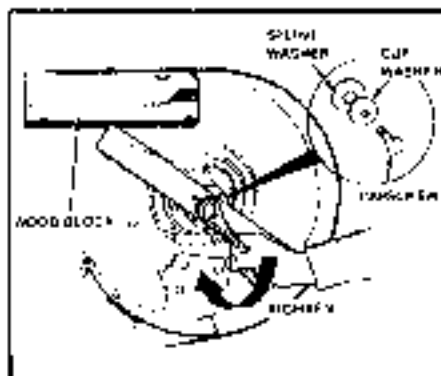

Figure 18. Installing Blade
7. Reinstall each blade with the tabs pointing up toward deck and secure with a capscrew, cup washer, and spline washer. Be sure the splines on the spline washer are aligned with the shaft and the washer is flush against blade. Be sure cup washer is installed convex side up. Use a wooden block to prevent blade from spinning and torque capscrew to 50 ft. lbs. (68 N.m) (figure 18).